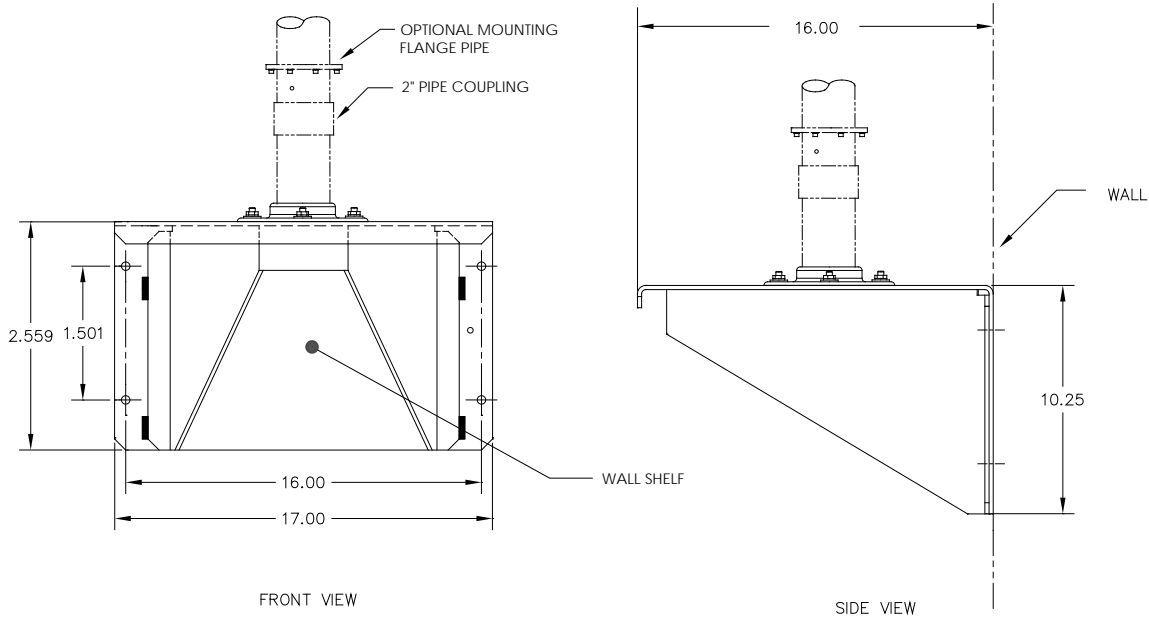

Figure 3-20 Shelf Installation
- 2) Mount the shelf to the wall, being careful to keep level, using four ¼ x 20, 1-inch SST hex head machine screws in each of the four shelf mounting holes. Refer to Figure 3-20.